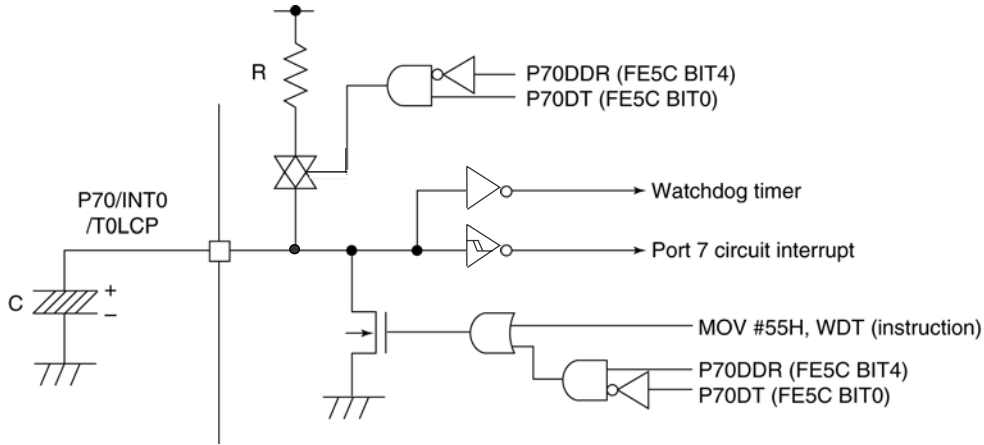

Fig. 4.5.3 Sample Application Circuit with a Pull-up Resistor
- 3) The external resistor to be connected to the watchdog timer can be omitted by setting bits 4 and 0 of the port7 control register P7 (FE5C) to 1, 0 and connecting a pull-up resistor to the P70/INT0/T0LCP pin (see Figure 4.5.3).